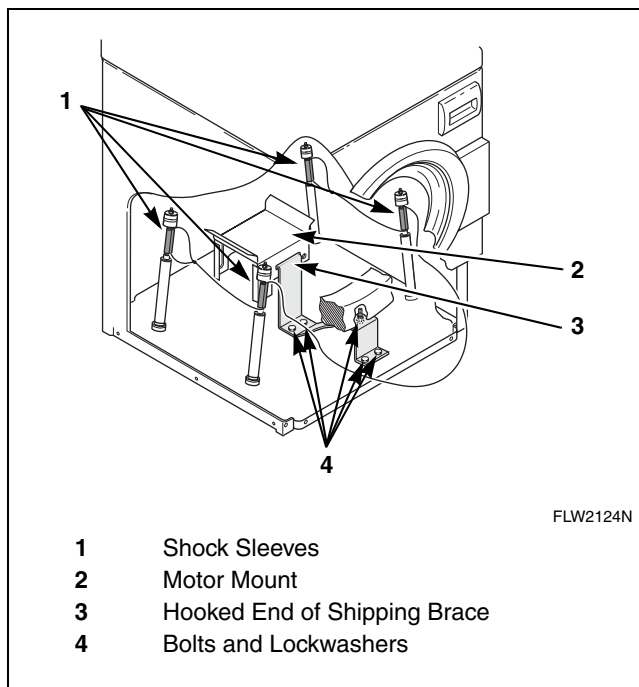

Figure 30
- Place the shock sleeves on all four shock absorbers. Refer to *Figure 30*.
- Insert hooked end of shipping brace into the open slot of the motor mount. Refer to *Figure 30*.
- Attach the brace with the five bolts and washers. Refer to *Figure 30*.